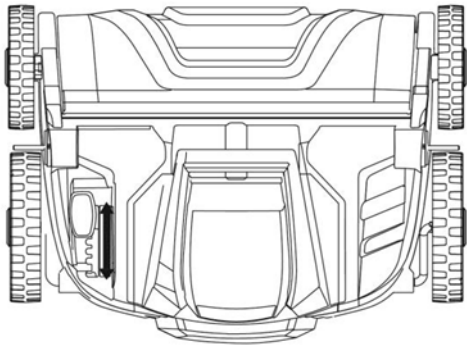

Fig.6.1
### Replacement of the roller (Fig. 6.1 - 6.5)
- Place the device on the motor side in a dry area and loosen the wing nut by turning it counterclockwise to open the latch (Fig. 6.1 - 6.2).